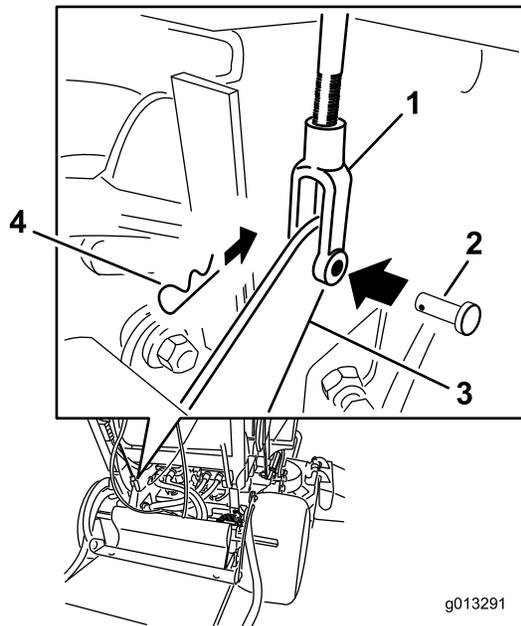

Figure 60
4. To adjust the brake, remove the clevis pin and hairpin cotter from the lower-brake lever and yoke (Figure 60).
7. Secure the yoke to the lower-brake lever with the clevis pin and hairpin cotter (Figure 60).